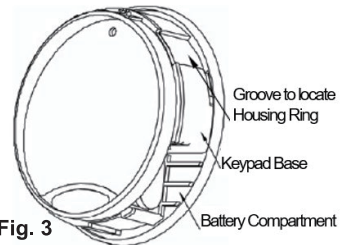
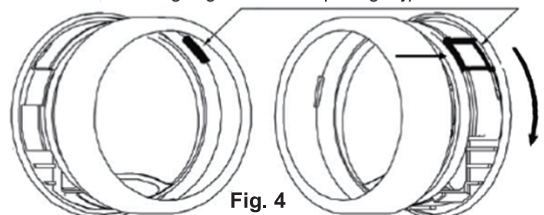

Fig. 3
Fig. 4
- Connect a new 9 volt battery and replace into the battery housing. Return the battery housing into the space within the keypad making sure the cable is well within the compartment. Fig.3
- There are three alignment tabs on the inside of the housing ring and three corresponding grooves on the keypad base. Locate the housing ring and push it onto the base. Fig.3 Then turn it clockwise until a click sounds. Fig 4